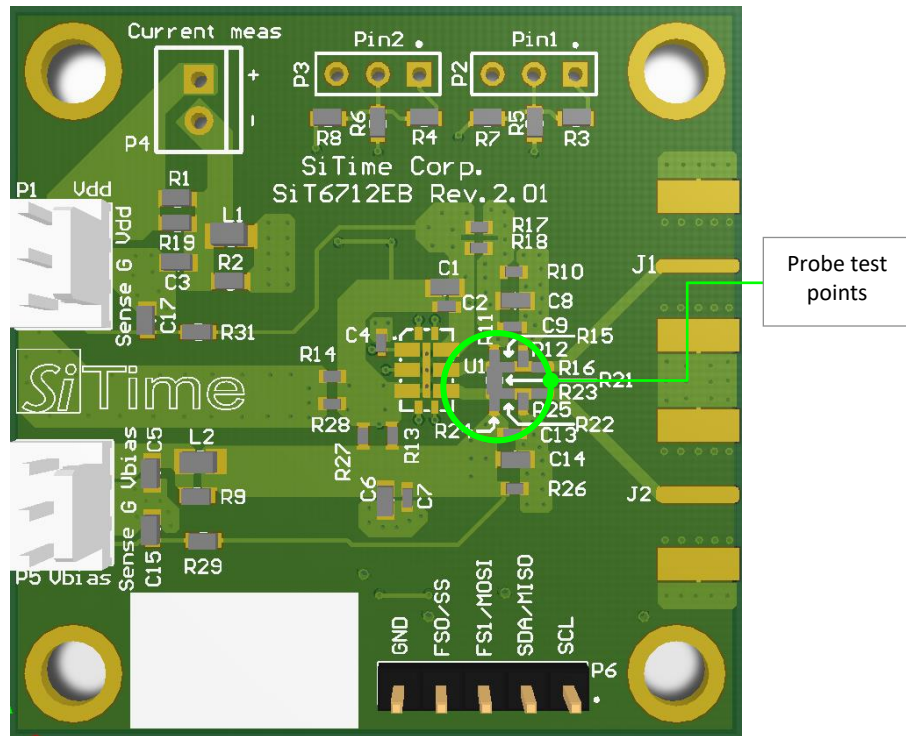

Figure A2: SiT6712EB rev.2.01 layout
- Figure A2 in Appendix A for the SiT6712EB layout top view